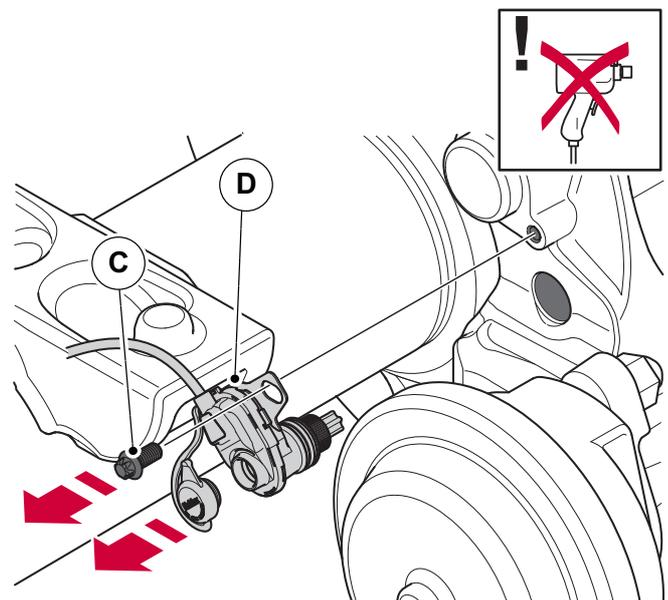

Figure 97. Remove PWS/PWIS
2. Unscrew the M8 Bolt (C) and pull out the PWS/PWIS (D) from the calliper (see figure 97).